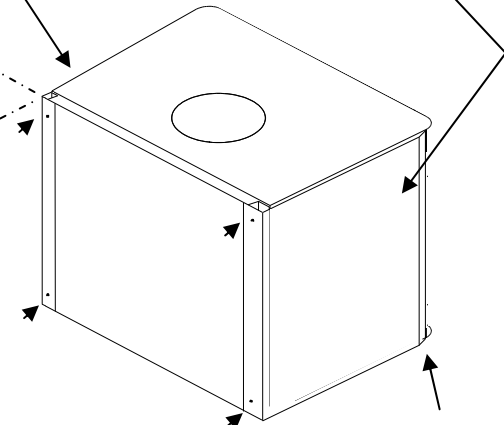

Figure 11B
2. Insert front end of side shield behind side angle on front side of stove. Align top of side shield with top of rear shield. Mark holes on rear shield thru holes in rear of side shield. Using four self tapping screws drill four holes in the locations marked. Tighten bottom screws and leave top screws loose for step 3. Use same step to install side shield on the opposite side of stove. See figure 11B.